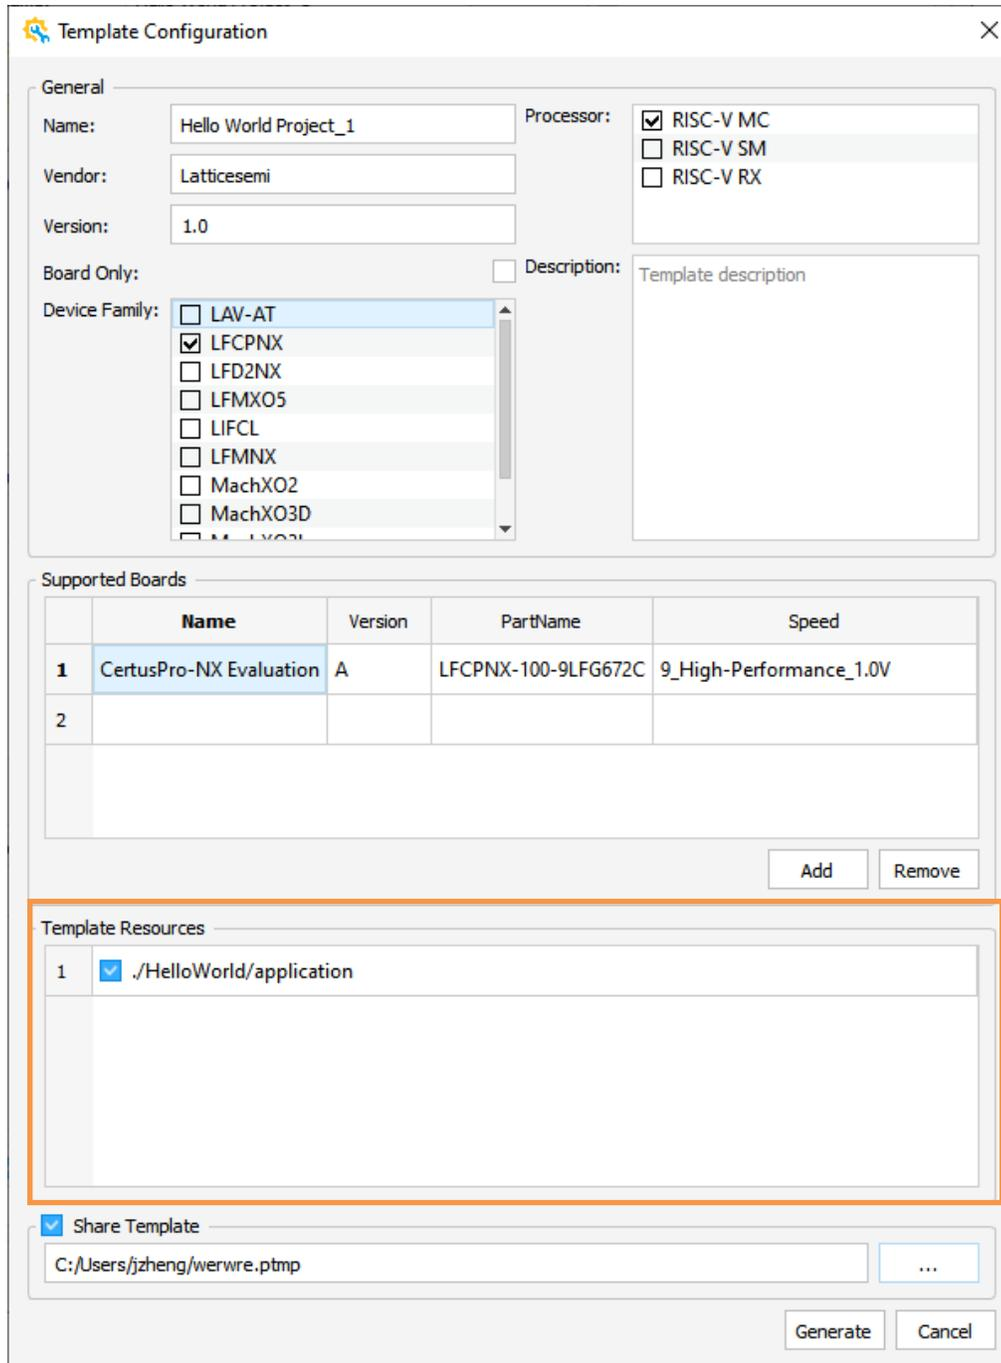

Figure 2.108. Export Template Configuration Page
Choose **Tools > Create Template** from Propel Builder Menu Bar. Template Configuration (Figure 2.108) opens.
all the IP instances in the design have the device support which are listed in the Board Family list in Template Configuration (Figure 2.108).
- Option under **Template Resources**, such as the *application* folder, contains functional-ready embedded application source codes for C project. Check the box before it (Figure 2.108), then the application under current project is also exported to destination (Figure 2.111). Other files under this option works the same way.